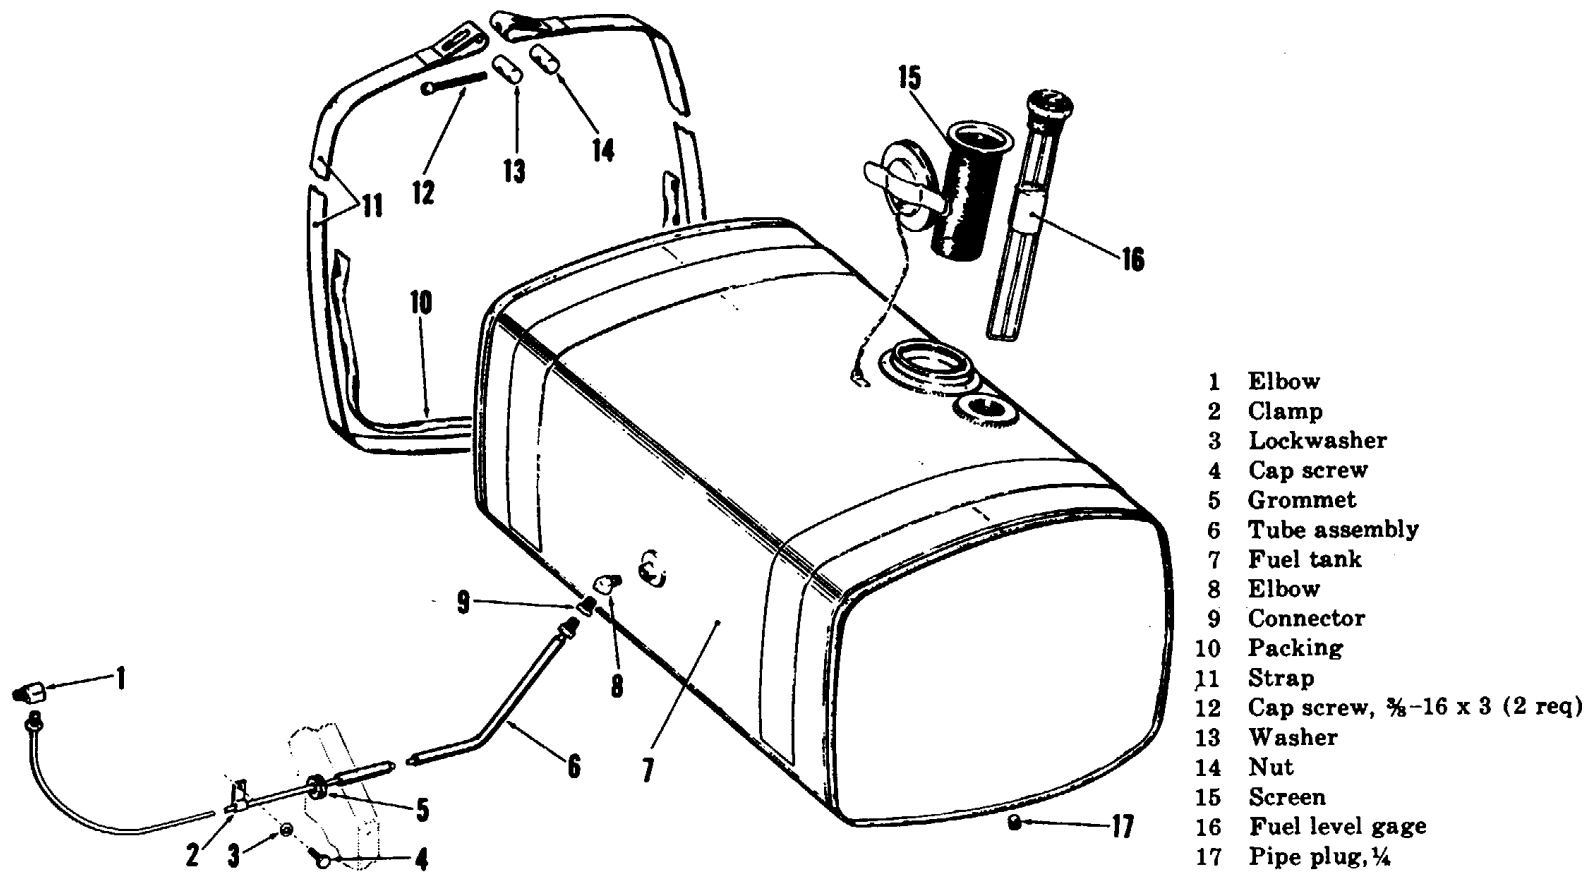

Figure 19. Exploded view of fuel tank and fittings.
a. *Removal* (fig. 19). Refer to paragraph 128 for removing part of the housing to make the fuel tank accessible. Disconnect the tube assembly (6) at the connector (9). Remove the cap screws (12), washers (13), and nuts (14). Take off the straps (11) from around the air receiver and fuel tank (7). Remove the fuel tank from the unit. The fuel line to the fuel pump can be removed by disconnecting the elbow (1) at the fuel pump and removing it from the tube assembly. Take out the cap screw (4) with lockwasher (3) and remove the clamp (2). Pull the tube assembly through the grommet (5) in the rear support. Unscrew the cover and lift out the screen (15). Unscrew the fuel level gage (16). Remove the elbow (8) with the connection and the pipe plug (17). The packing (10) need not be removed.
b. *Installation* (fig. 19). Screw the elbow (8), pipe plug (17), and fuel level gage (16) into the fuel tank (7). Put in the screen (15) and screw on the tank cover. Slide the tube assembly (6) through the grommet (5). Screw the elbow (1) into the fuel pump and attach the tube assembly. Install the clamp (2) with the cap screw (4) and lockwasher (3). Place the fuel tank in position under the air receiver and install the straps (11) around both tanks with the cap screw (12), washer (13) and nut (14). Screw the tube assembly into the connector (9). Replace the part of the housing which was removed (par. 130).